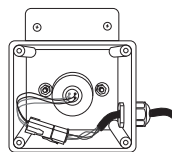

FIGURE 2
2. Once the UV bulb has cooled off remove the CLEARARRAY unit enclosure cover (9) and gasket (8) by removing the four screws (10). This will expose the UV bulb and connections, Figure 2.